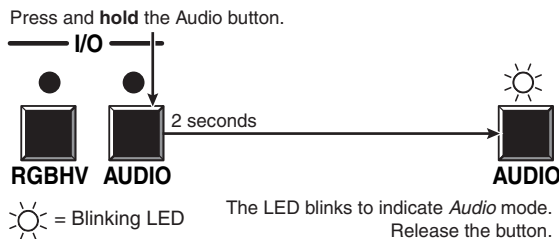

Figure 3-44 — Select Audio mode
2. Press and **hold** the Audio button for approximately 2 seconds until the Audio LED blinks (figure 3-44).